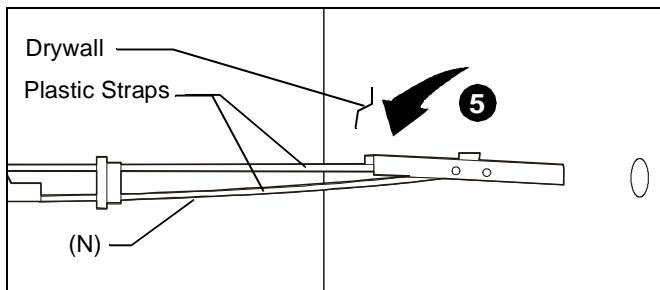

**Figure 4**
**⚠ WARNING:** IMPROPER INSTALLATION CAN LEAD TO EQUIPMENT FALLING CAUSING SERIOUS PERSONAL INJURY OR DAMAGE TO EQUIPMENT! Figure 4 identifies the minimum requirements for installation of display mounts onto a steel stud structure. If the structure or its components do not meet these requirements contact the mount manufacturer for specific instructions before attempting installation. It should also be noted that no other equipment should be mounted to the same stud. **(See Figure 4)**